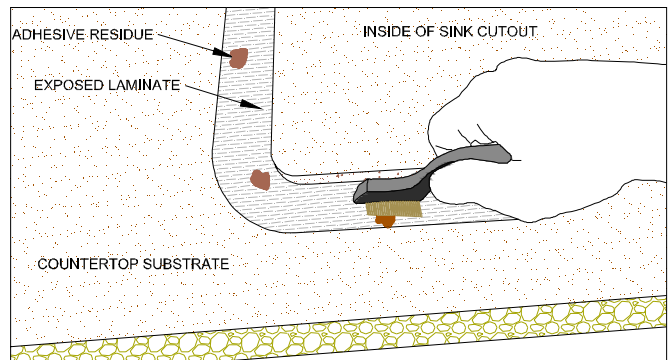

Figure 27C
- Using a wire brush remove any remaining substrate or adhesive residue from the exposed laminate. Blow off all residue with compressed air. (FIG. 27C)